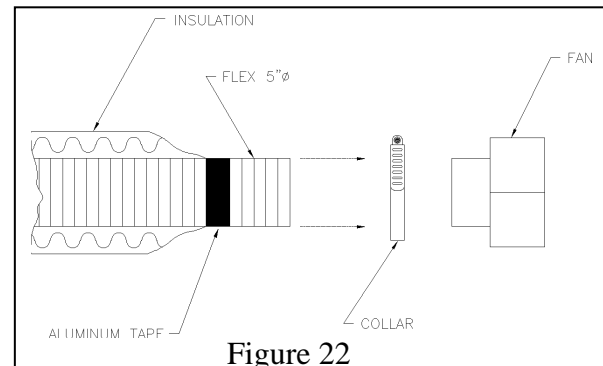

Figure 22
- D) Attach the flexible pipe to the fan, using the collars (figure 22).
- G) At that point, the flexible pipe can be attached to any air distribution grill. It is possible to connect a flexible pipe to a central heating system. Make sure the pipe will be connected to the warm air supply duct, not to the return air duct (figure 22).